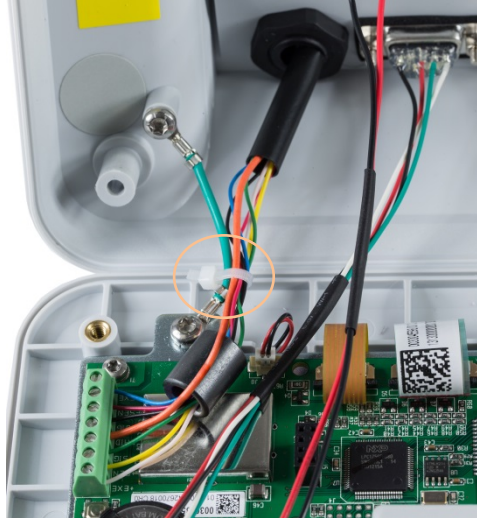

Figure A-20: Analog Load Cell Pin Grounding and Ferrite Installation, IND231
1. The load cell cable is routed into the enclosure as indicated in Figure A-20.